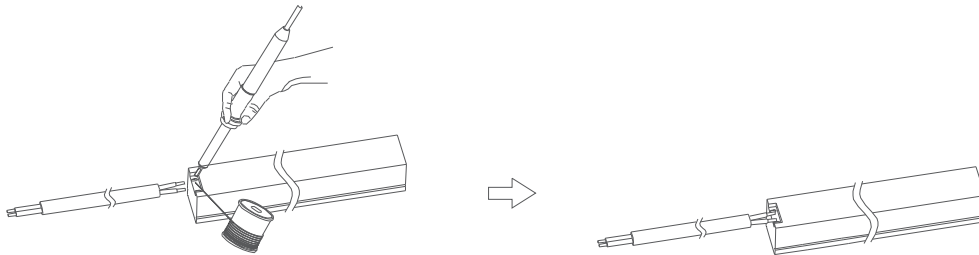

Figure 6
4. Use the soldering iron to solder the wire, as shown in Figure 6